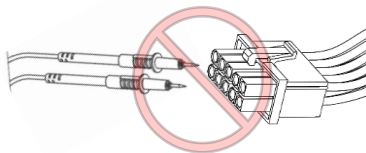

Figure 4-3 Do not probe USHX wiring harness directly
- Do not probe USHX wiring harness directly as shown in **Figure 4-3**